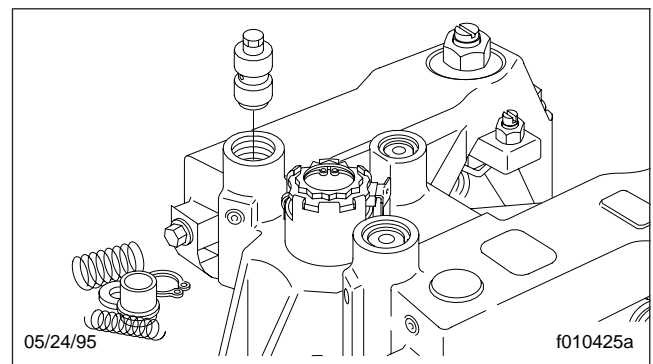

Fig. 3, Remove the Control Valve
8. Using needle nose pliers, reach into the housing bore and grasp the stem of the control valve. Remove the control valve. See **Fig. 3**.